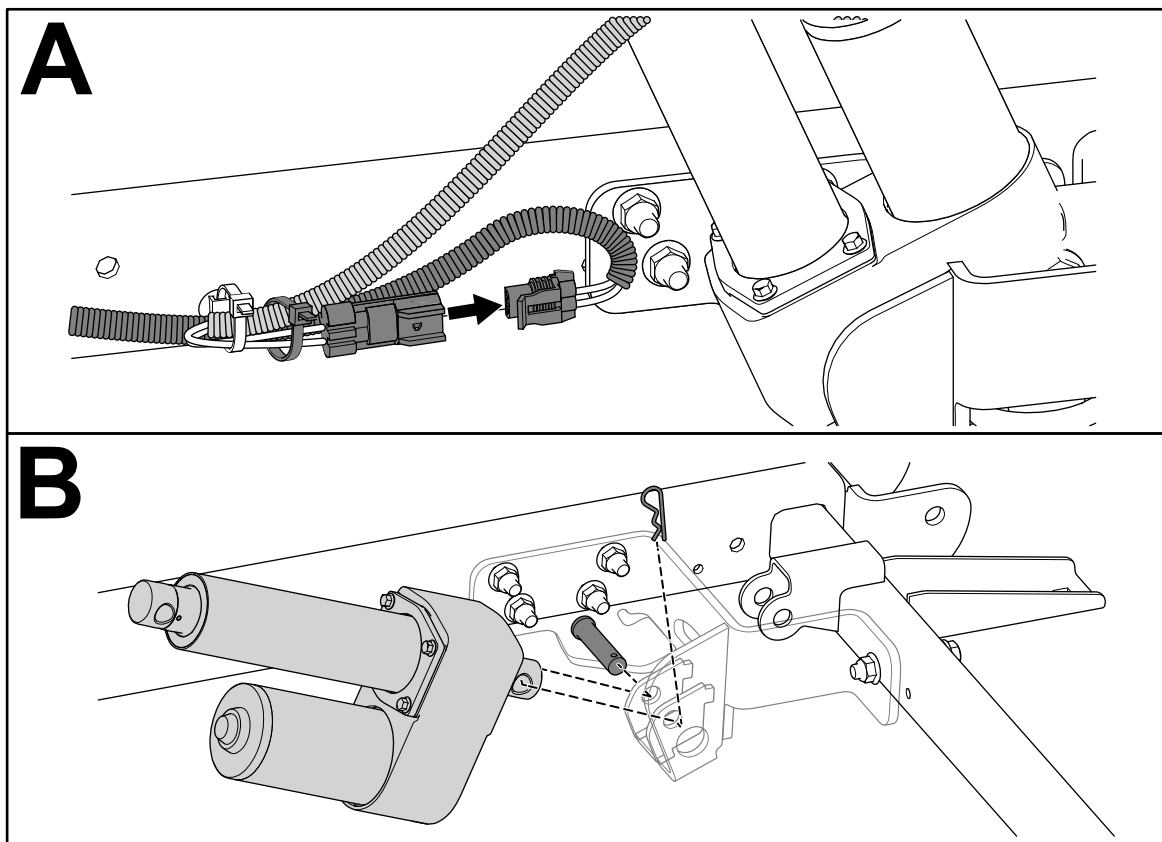

Figure 4
5. **If applicable**, remove the electric lift cylinder as shown in Figure 4.